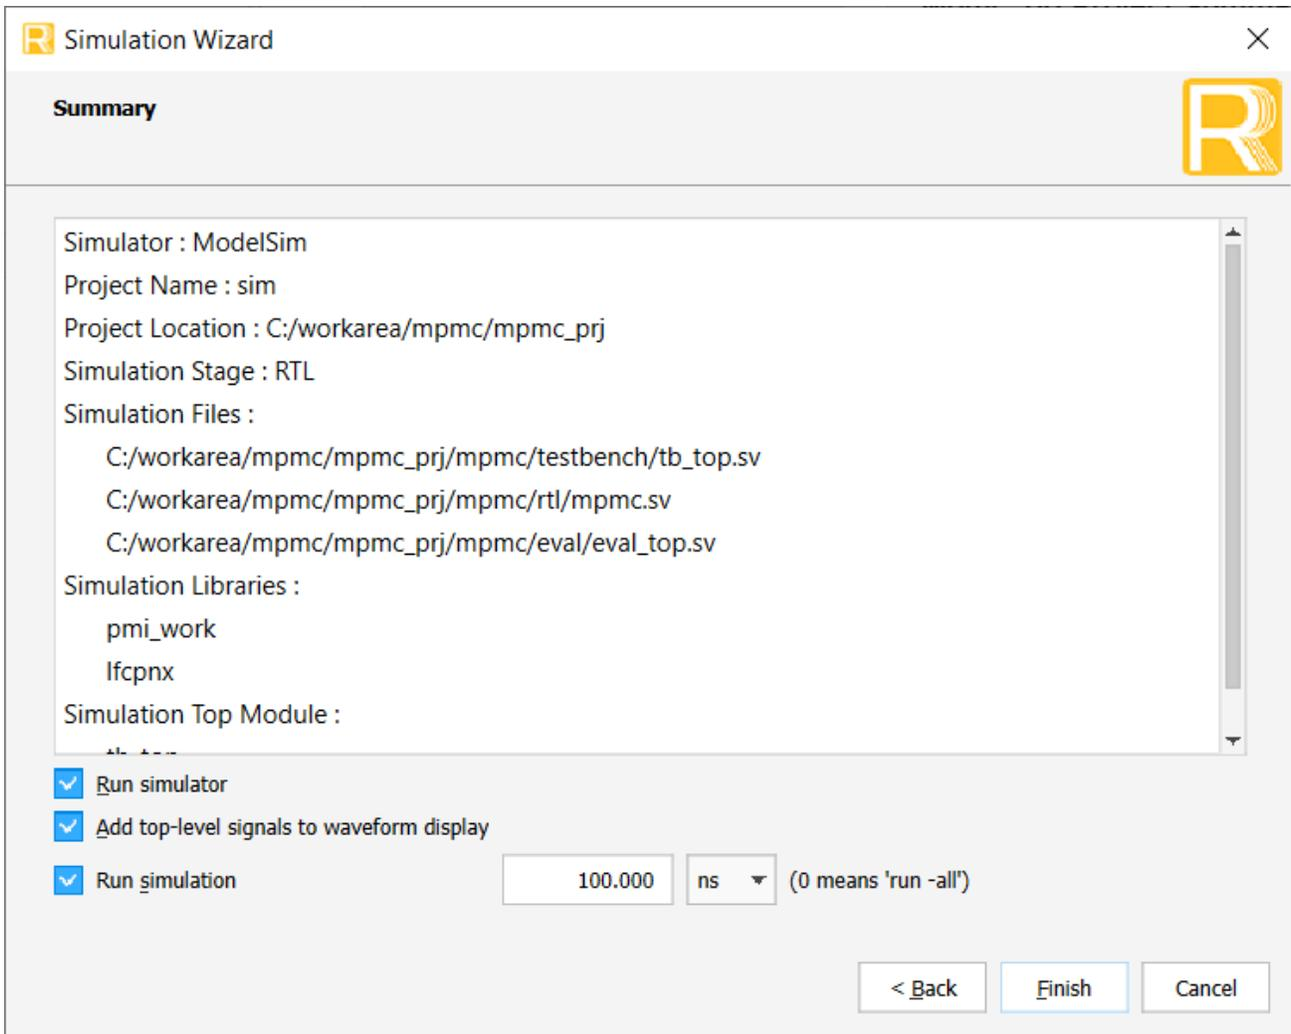

Figure 6.14. Simulation Summary
4. The **Summary** window opens as shown in Figure 6.14. By default, the simulation runs for 100 μ s. Before running the simulation, configure the waveform to log signals of interest in the Modelsim simulator. To run the simulation until completion, enter this tcl command in the Modelsim simulator: `run -a11`. Alternatively, to run the simulation with the default top-level signals, change the value from 100 μ s to 0 μ s to execute the simulation completely.